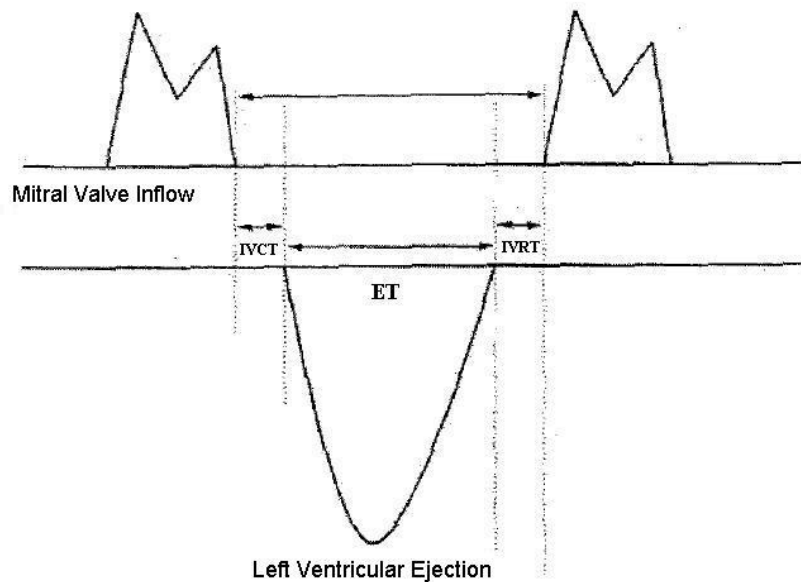

Figure 162: TEI map sketch
2. Use the trackball to move the cursor to **IVCT** and click on **Set** to enter the Measurement state. See **Time Measurement** (see Section 9.2.2.1 for instructions on use) to continuously measure the IVCT, IVRT and ET values in the spectrogram, as shown in Figure 162.